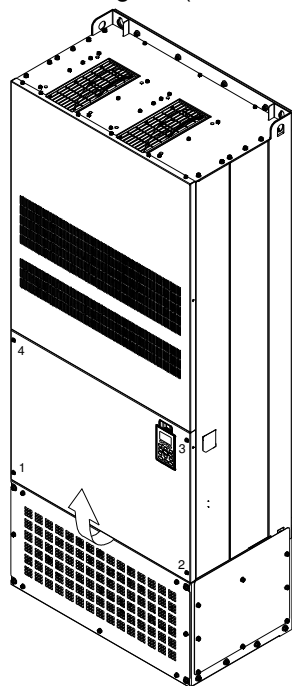

Figure 1
(1) Loosen the screw and remove the top cover (figure 1) Screw torque: 14~16kg-cm (12.2~13.9lb-in)